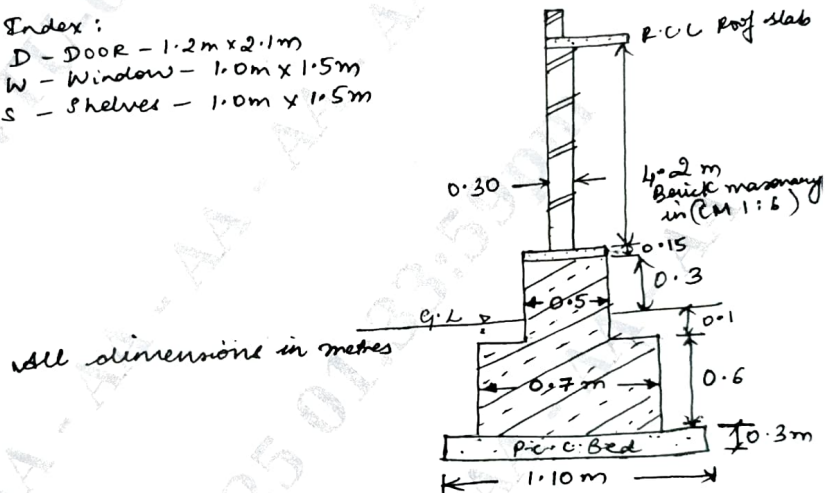

Fig. Q7
- 7 Refer Fig Q7 using short wall - long wall method :
8 Refer Fig. Q7. Using short wall – long wall method.